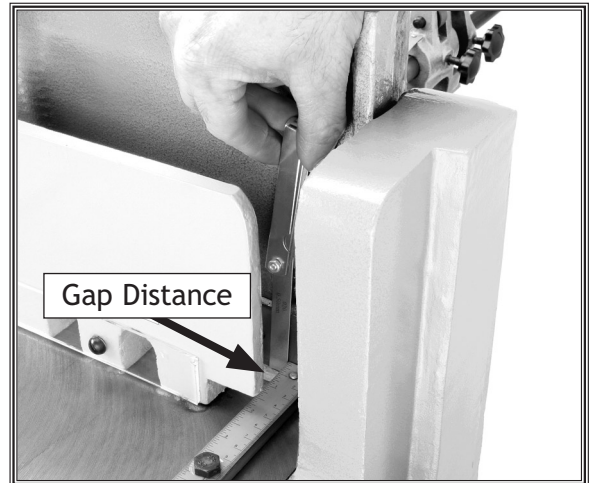

Figure 10. Measuring gap between blades.
6. Turn the table adjustment screws to move the fixed blade away from the moving blade so you have a gap of 0.002". Check this measurement with a feeler gauge as shown in **Figure 10**.